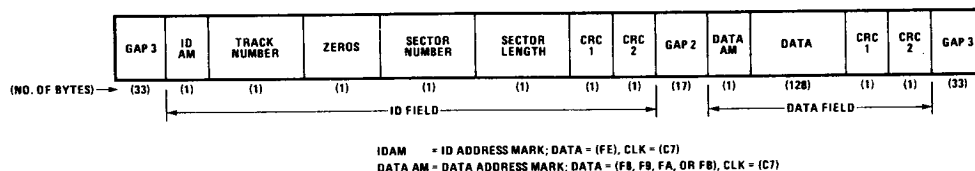

Figure 1. IBM 3740 ID Field and Data Field Formats
When an ID field (see figure 1) is located on the diskette, the INS1771-1 compares the Track Number of the ID field with the Track Register. If there is not a match, the next encountered ID field is read and a comparison is made. If there is a match, the sector number of the ID field is then compared with the Sector Register. If there is not a match, the next encountered ID field is read and a comparison is made. If there is a match, the CRC field is read. (The polynomial for the CRC is  $G(x) = x^{16} + x^{12} + x^5 + 1$ . The CRC includes all the information starting with the address mark and up to the CRC characters.) If there is a CRC error, the CRC Error status bit is set and the next ID field is read off the diskette and comparisons are made. If the CRC is correct, the data field is located and will be either written or read, depending upon command. The INS1771-1 must find an ID field with a valid track number, sector number, and CRC within four revolutions of the diskette; otherwise, the Record Not Found status bit (bit 4) is set and the command is terminated with an interrupt.
**Read Address:** Upon receipt of this command, the head is loaded and the Busy status bit is set. The next encountered ID field is then read in off the diskette, and the six data bytes of the ID field are assembled and transferred to the Data Register, and a DRQ output is generated for each byte. (The six bytes of the ID field are shown in figure 1.)